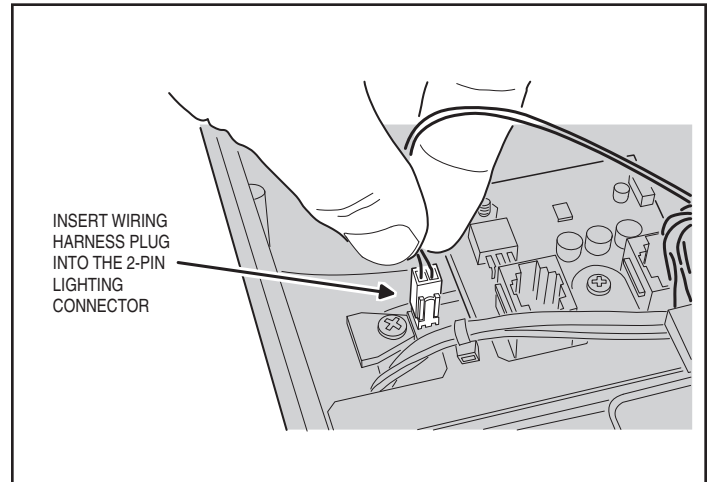

Figure 25. Connecting the Camera's Lighting Power
3. Connect the wiring harness 2-pin lighting power wiring connector onto the camera's infrared lighting power connector (see Figure 25).